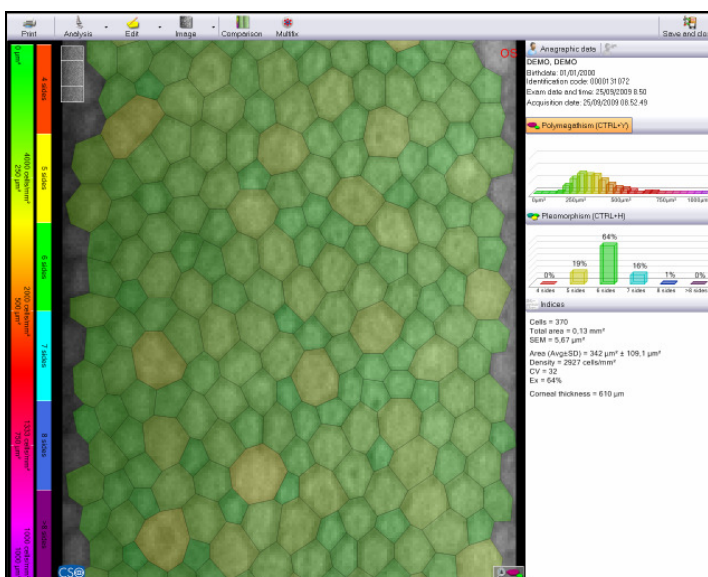

Fig. 33 - Polymegathism
- Polymegathism: image displayed by surface area of each cell. (Fig.33).